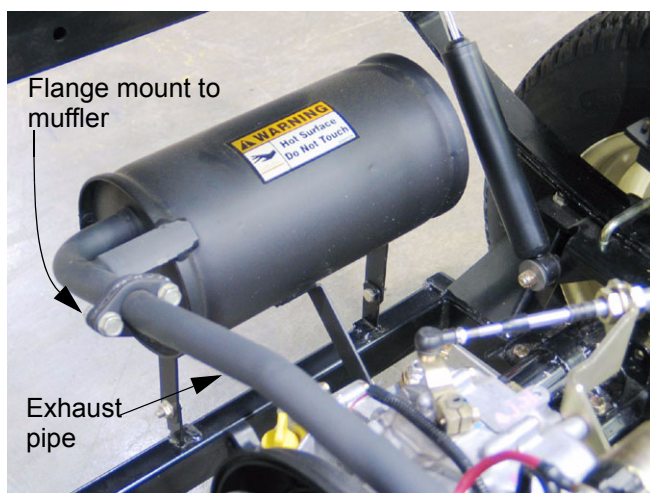

Figure 5.15
- 5.15. Disconnect the rear flange of the exhaust pipe from the muffler using two 13 mm wrenches. See Figure 5.15.